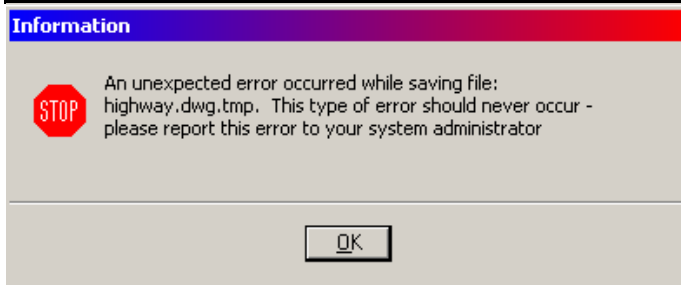

Figure 13-20: Unexpected Error message – Make note of file name
- ❶ Occasionally you will receive a message (Figure 13-20) when a file doesn't get converted. Make note of which files fail during the conversion process. This message is very common. It may be because you are in a file that is referencing a file you are converting. Click OK.